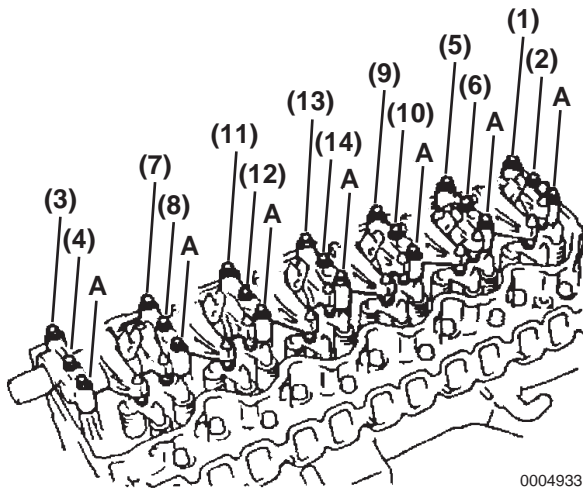

Figure 5-11
13. Remove the camshaft bearing cap bolts and rocker arm bolts. Remove 7 bolts **(Figure 5-11, (A))** and loosen 14 bolts uniformly in sequence as shown in **Figure 5-11**.